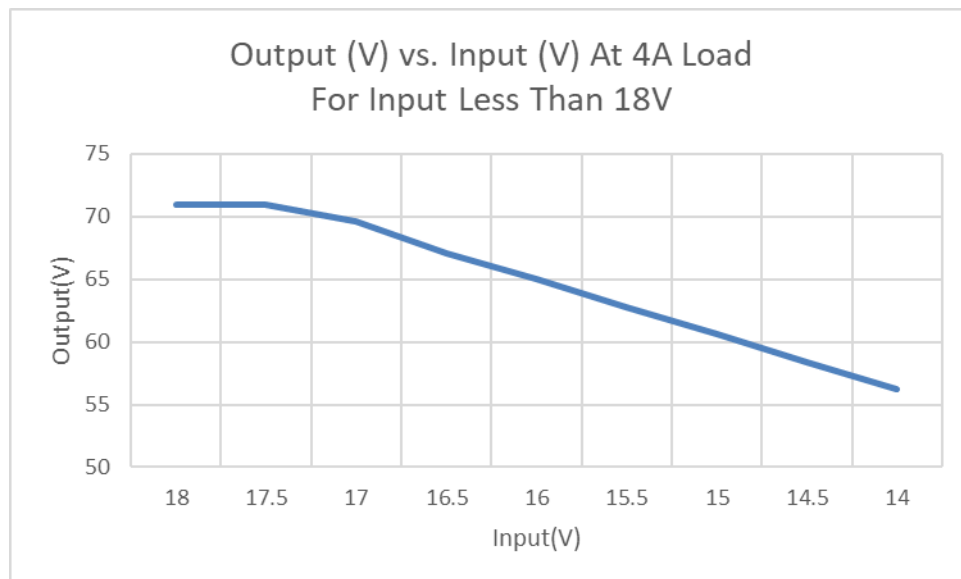

Figure 1.0 - Output Voltage vs. Input Voltage at Full Load
- Operates from 18Vdc-36Vdc with derating at <18Vdc input (see Figure 1.0)